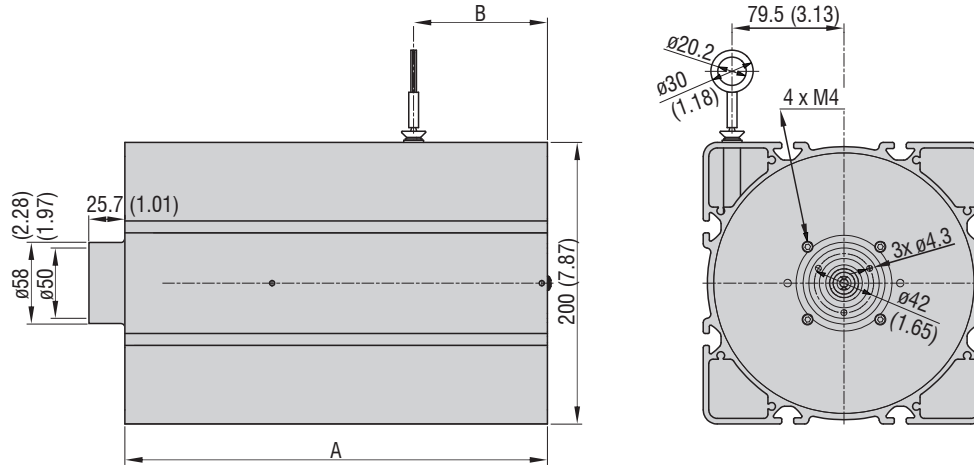

Fig. 7 WDS-P200-M series, dimensions in mm (inches)
- P200 series: 4x M8 DIN 912 and 4 slot nuts, see Fig. 7.